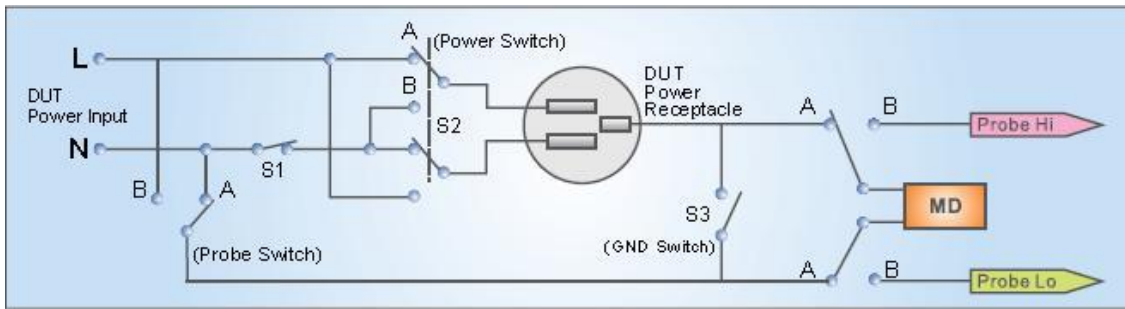

Figure 2
The LINE configuration is determined by the switches S1, S2 and S3 (refer to Figure 2) and is set using the corresponding Line Configuration Soft keys. S1 relay is represented as NEUTRAL and is controlled by the Neutral soft key. S2 relay is represented as REVERSE and is controlled by the
When the REVERSE relay is set to ON, the relay is in position B (refer to Figure 2) and the Line and Neutral conductors are reversed at the DUT power outputs. The power output is represented as the power receptacle in Figure 2.
The three switches may be configured into eight different combinations of Line conditions. The different combinations are represented in the table below (refer to Figure 2).
The Probe configuration is controlled by the relays SH, SL and Probe Switch shown in Figure 2 and are set by the Probe soft key. These three relays configure the current measuring device into four possible positions. Repeatedly pressing the Probe soft key allows the selection of the four different states. The four positions are described in the table below.
2. It belongs to the application of Standard IEC 60335-1 Fig.2 that both the switch SH and SL are on the A position.